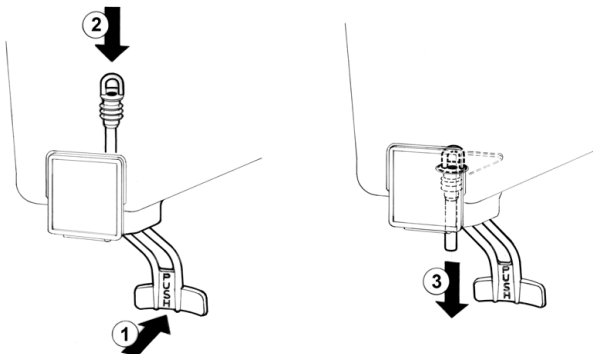

figure 6
- 2 **Pinch tube faucet:** push the dispensing handle (1) and insert the pinch tube into its vertical seat in the bowl bottom(2). Lightly pull the pinch tube end downwards til itl is well arranged (3) (see figure 6).